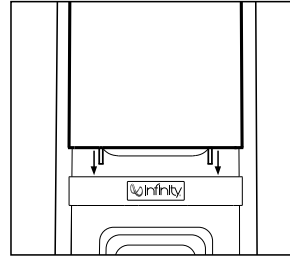

Figure 1.
1. Insert the two pins into the rubber cups located in the top of the logo bar, as shown in the front view in Figure 1.